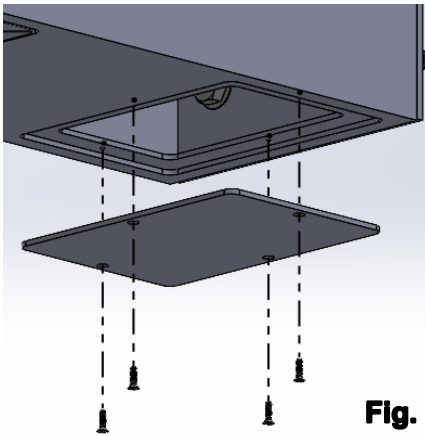

Fig. 2
- Remove the four flat head screws #6-32 x 1/2" and the aluminum cover located on the fixture. **Fig. 2**